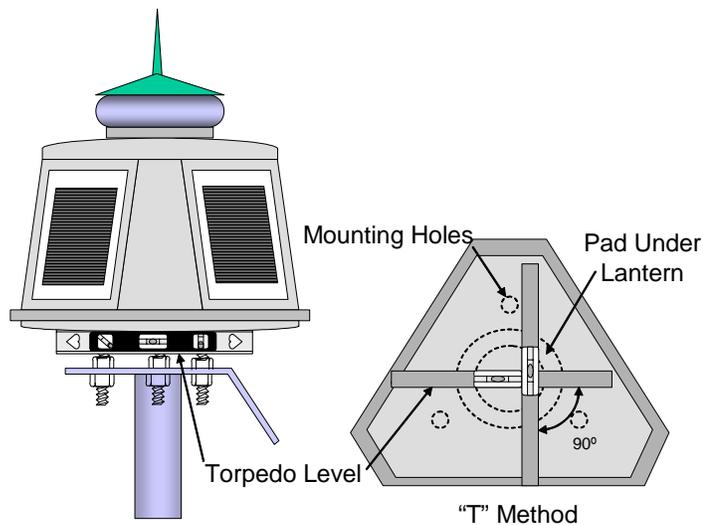

Figure 3-9
- d. Place a torpedo level on the bottom of the lantern (there is a circular pad in the center) in-line with two of the mounting holes. Using the "T" method, level the lantern using one or both of the nuts on top of the platform corresponding to those two mounting holes. Turn the level 90 degrees and level the lantern in that direction by turning the one nut on top of the platform opposite the other two nuts. The lantern should be level in both directions. See Figure 3-9.